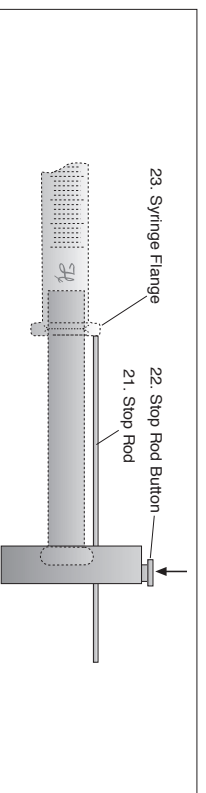

Figure 10
2. Set and hold the plunger at the desired syringe volume (Figure 10).
3. Adjust the stop rod (21) to the predetermined volume by first loosening the stop rod button (22) (turns counterclockwise). Press in the stop rod button, and move the stop rod up or down so that it just contacts the syringe flange (23).